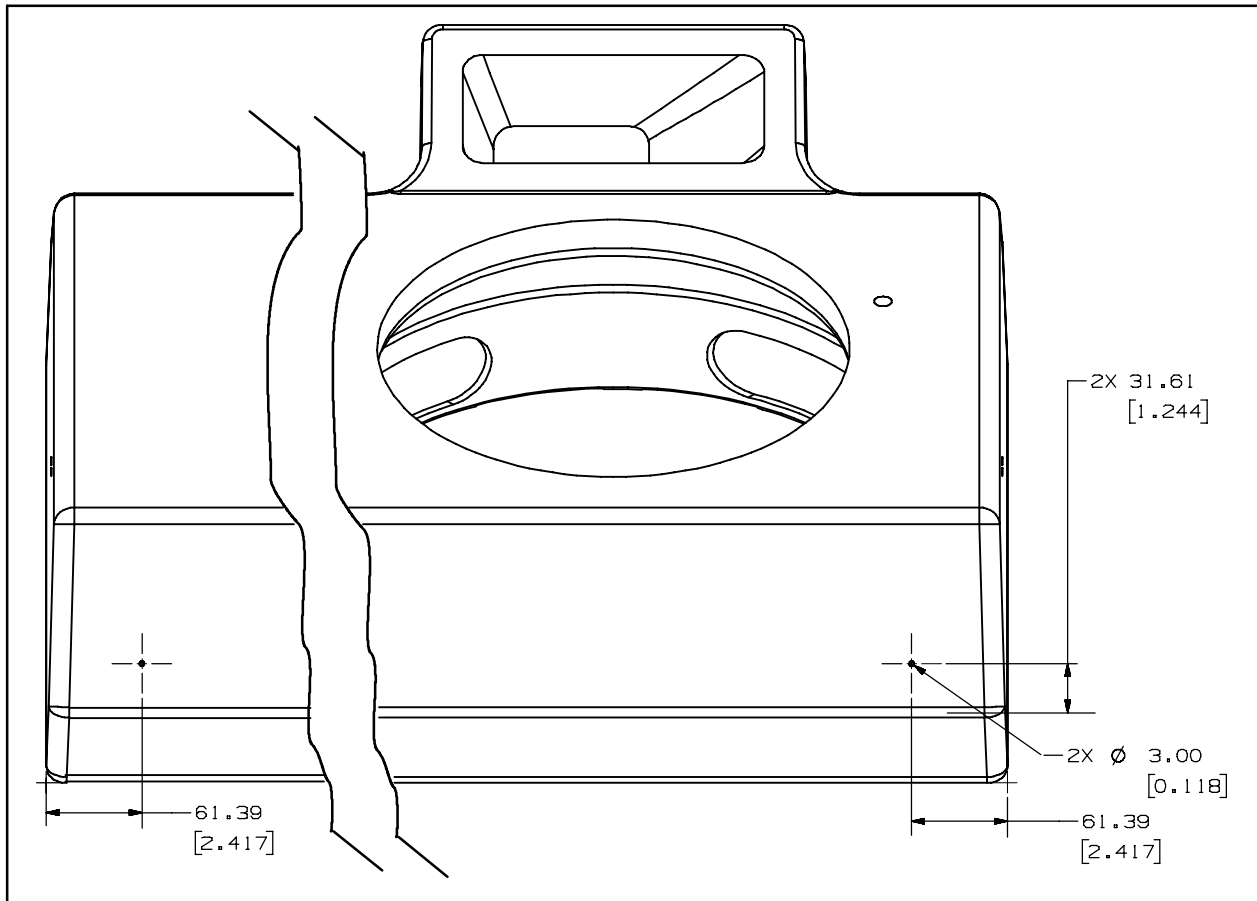

FIG. 4
7. Drill two 0.0118" holes into the filter cover. Refer to Fig. 4.